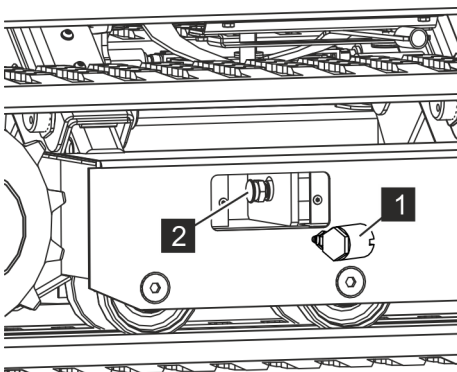

Fig. 214: Pulling out the slide coupling
8. → Turn the slide coupling (Fig. 214/1) back by 180° anti-clockwise and pull it out of the grease tension cylinder (Fig. 214/2).